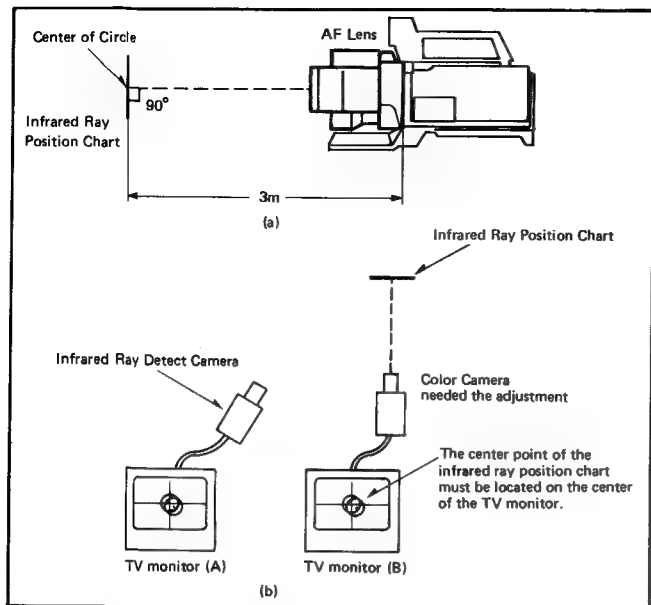

Fig. 3 Color Camera Setting Condition
2. Set the camera and the infrared ray position chart as shown in Fig. 3.